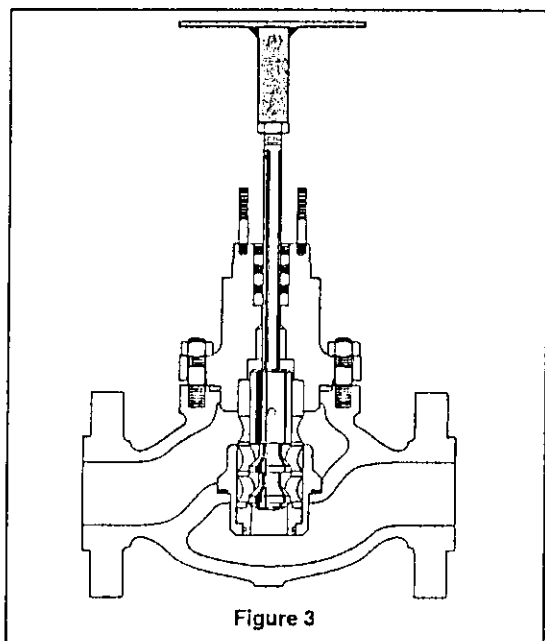

Figure 3
ALL FIGURES	3, 4, 5, 7, 8, 9, 10 & 12
7.1 Lapping Seat (Figures 3 & 4) (only on hard seat ring)
- (8) Insert two or three pieces of packing into the packing box to assist in guiding the stem and plug during lapping.
- (9) Screw a drilled and tapped rod with a T-handle on to the plug stem and secure with a locknut. (See Figure 3).